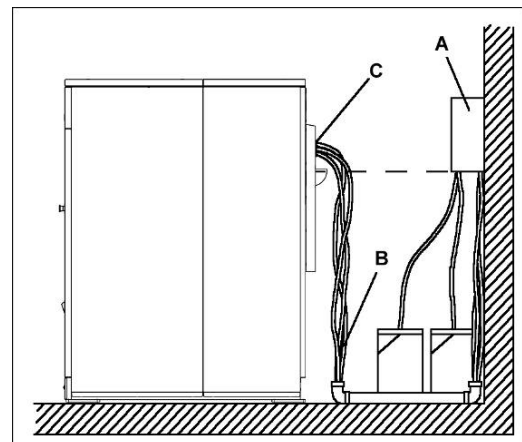

fig 26
- Open the terminal box **A**, (figures 26 and 29) located on the back of the machine.
- On the entry hole of the electrical connection to the external dosing unit (identified as **Ed** figures 26 and 29) install a device (not supplied with the washer) to secure the cable or cable pipe protector, depending on the cable or cable pipe used. Refer to dimensions and connection diameter in **INSTALLATION SPECS**, section **1.4**.
To prevent undiluted chemical dripping inside the washer, all chemical supply dispensing pumps (**fig. 26/A**) and all dispenser tubing (**fig. 26/B**) must be mounted below the dosing injection point (**fig.26/C**) to the washer. Loops do not prevent drips. Failure to follow these instructions could damage to washer and void the warranty.